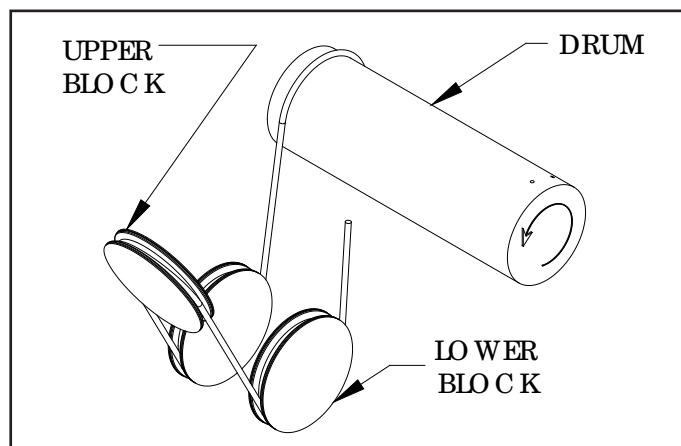

Figure 5-5. Reeving Diagram - 4 Part Single Reeved.
- b) Before removing the old rope, refer to reeving diagram, Figure 5-5. To assist with re-reeving your hoist, refer to the reeving diagram and corresponding paragraph that describes the reeving procedure.
- (5) With outer lower block covers removed, thread the wire rope through the sheaves of the upper and lower block as shown in Figure 5-5.
- (6) Attach swaged rope end to the dead end anchor pin and fasten with either the new cotter pin provided with the rope ("B" & "C" Frame) or the retaining rings provided with the hoist ("D" Frame).
- (7) Replace the lower block sheave covers.
- (8) Lubricate cable per Paragraph 4-3.